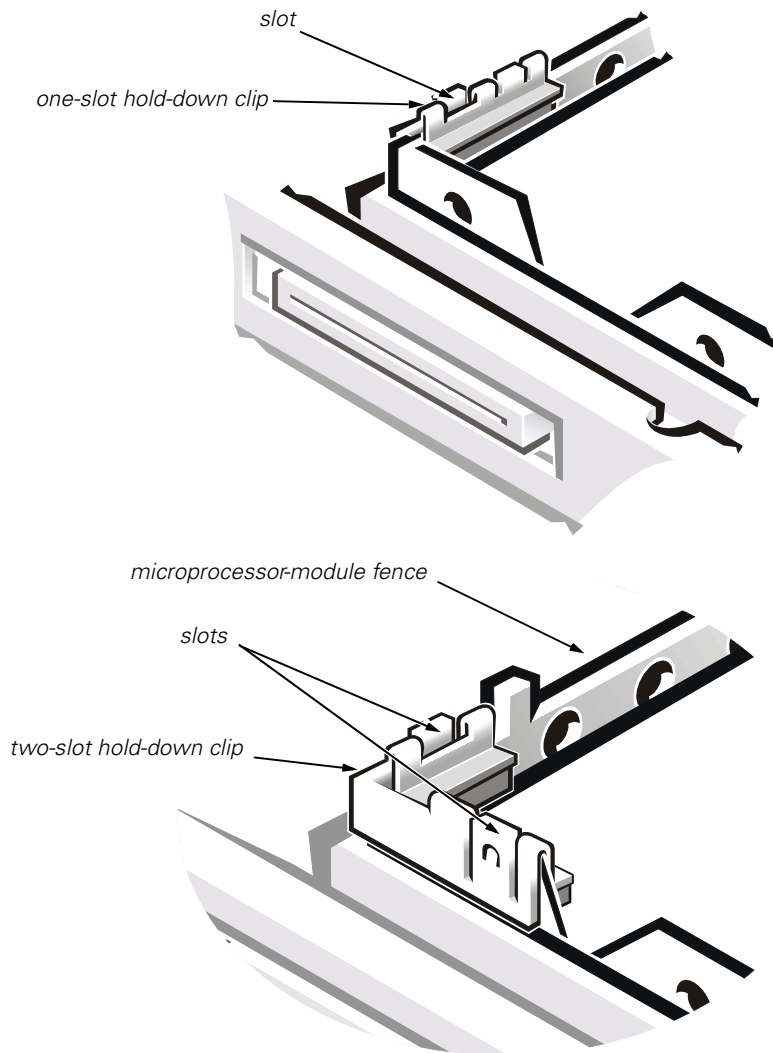

Figure 31. One- and Two-Slot Hold-Down Clips
- a. Insert a small flat-blade screwdriver into one of the slots at the top of the clip (see Figure 31).
- c. If your computer has a two-slot hold-down clip (see Figure 31), repeat substeps a and b for the second slot.